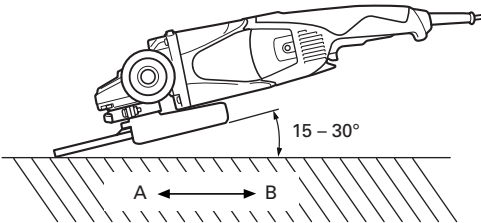

Fig. 2
Do not apply the entire surface of the depressed center wheel to the material to be ground. As shown in Fig. 2, the machine should be held at an angle of 15° – 30° so that the external edge of the depressed center wheel contacts the material at an optimum angle.
3. To prevent a new depressed center wheel from digging into the workpiece, initial grinding should be performed by drawing the grinder across the workpiece toward the operator (Fig. 2 direction B). Once the leading edge of the depressed center wheel is properly abraded, grinding may be conducted in either direction.